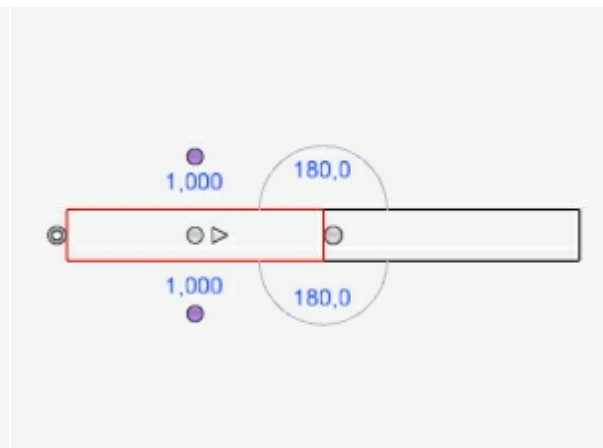

Figure 4
- The wall has now been split. In Figure 4 you can see that the horizontal wall is now made up of two equal parts. Each part has a length of 1 m.